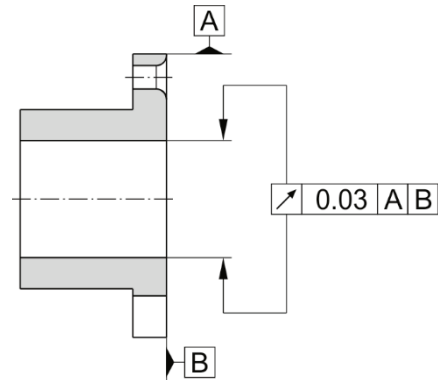

Fig. 3
- ☐ The recommended bore tolerances are to be produced using the position and tolerance width as references; at the same time, please keep to the shaft run-out and axial run-out tolerances of 0.03 mm (see Fig. 3).